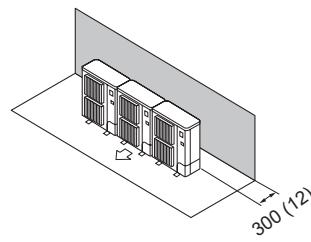

Fig. 2-12
(1) Obstacles at rear only (Fig. 2-12)